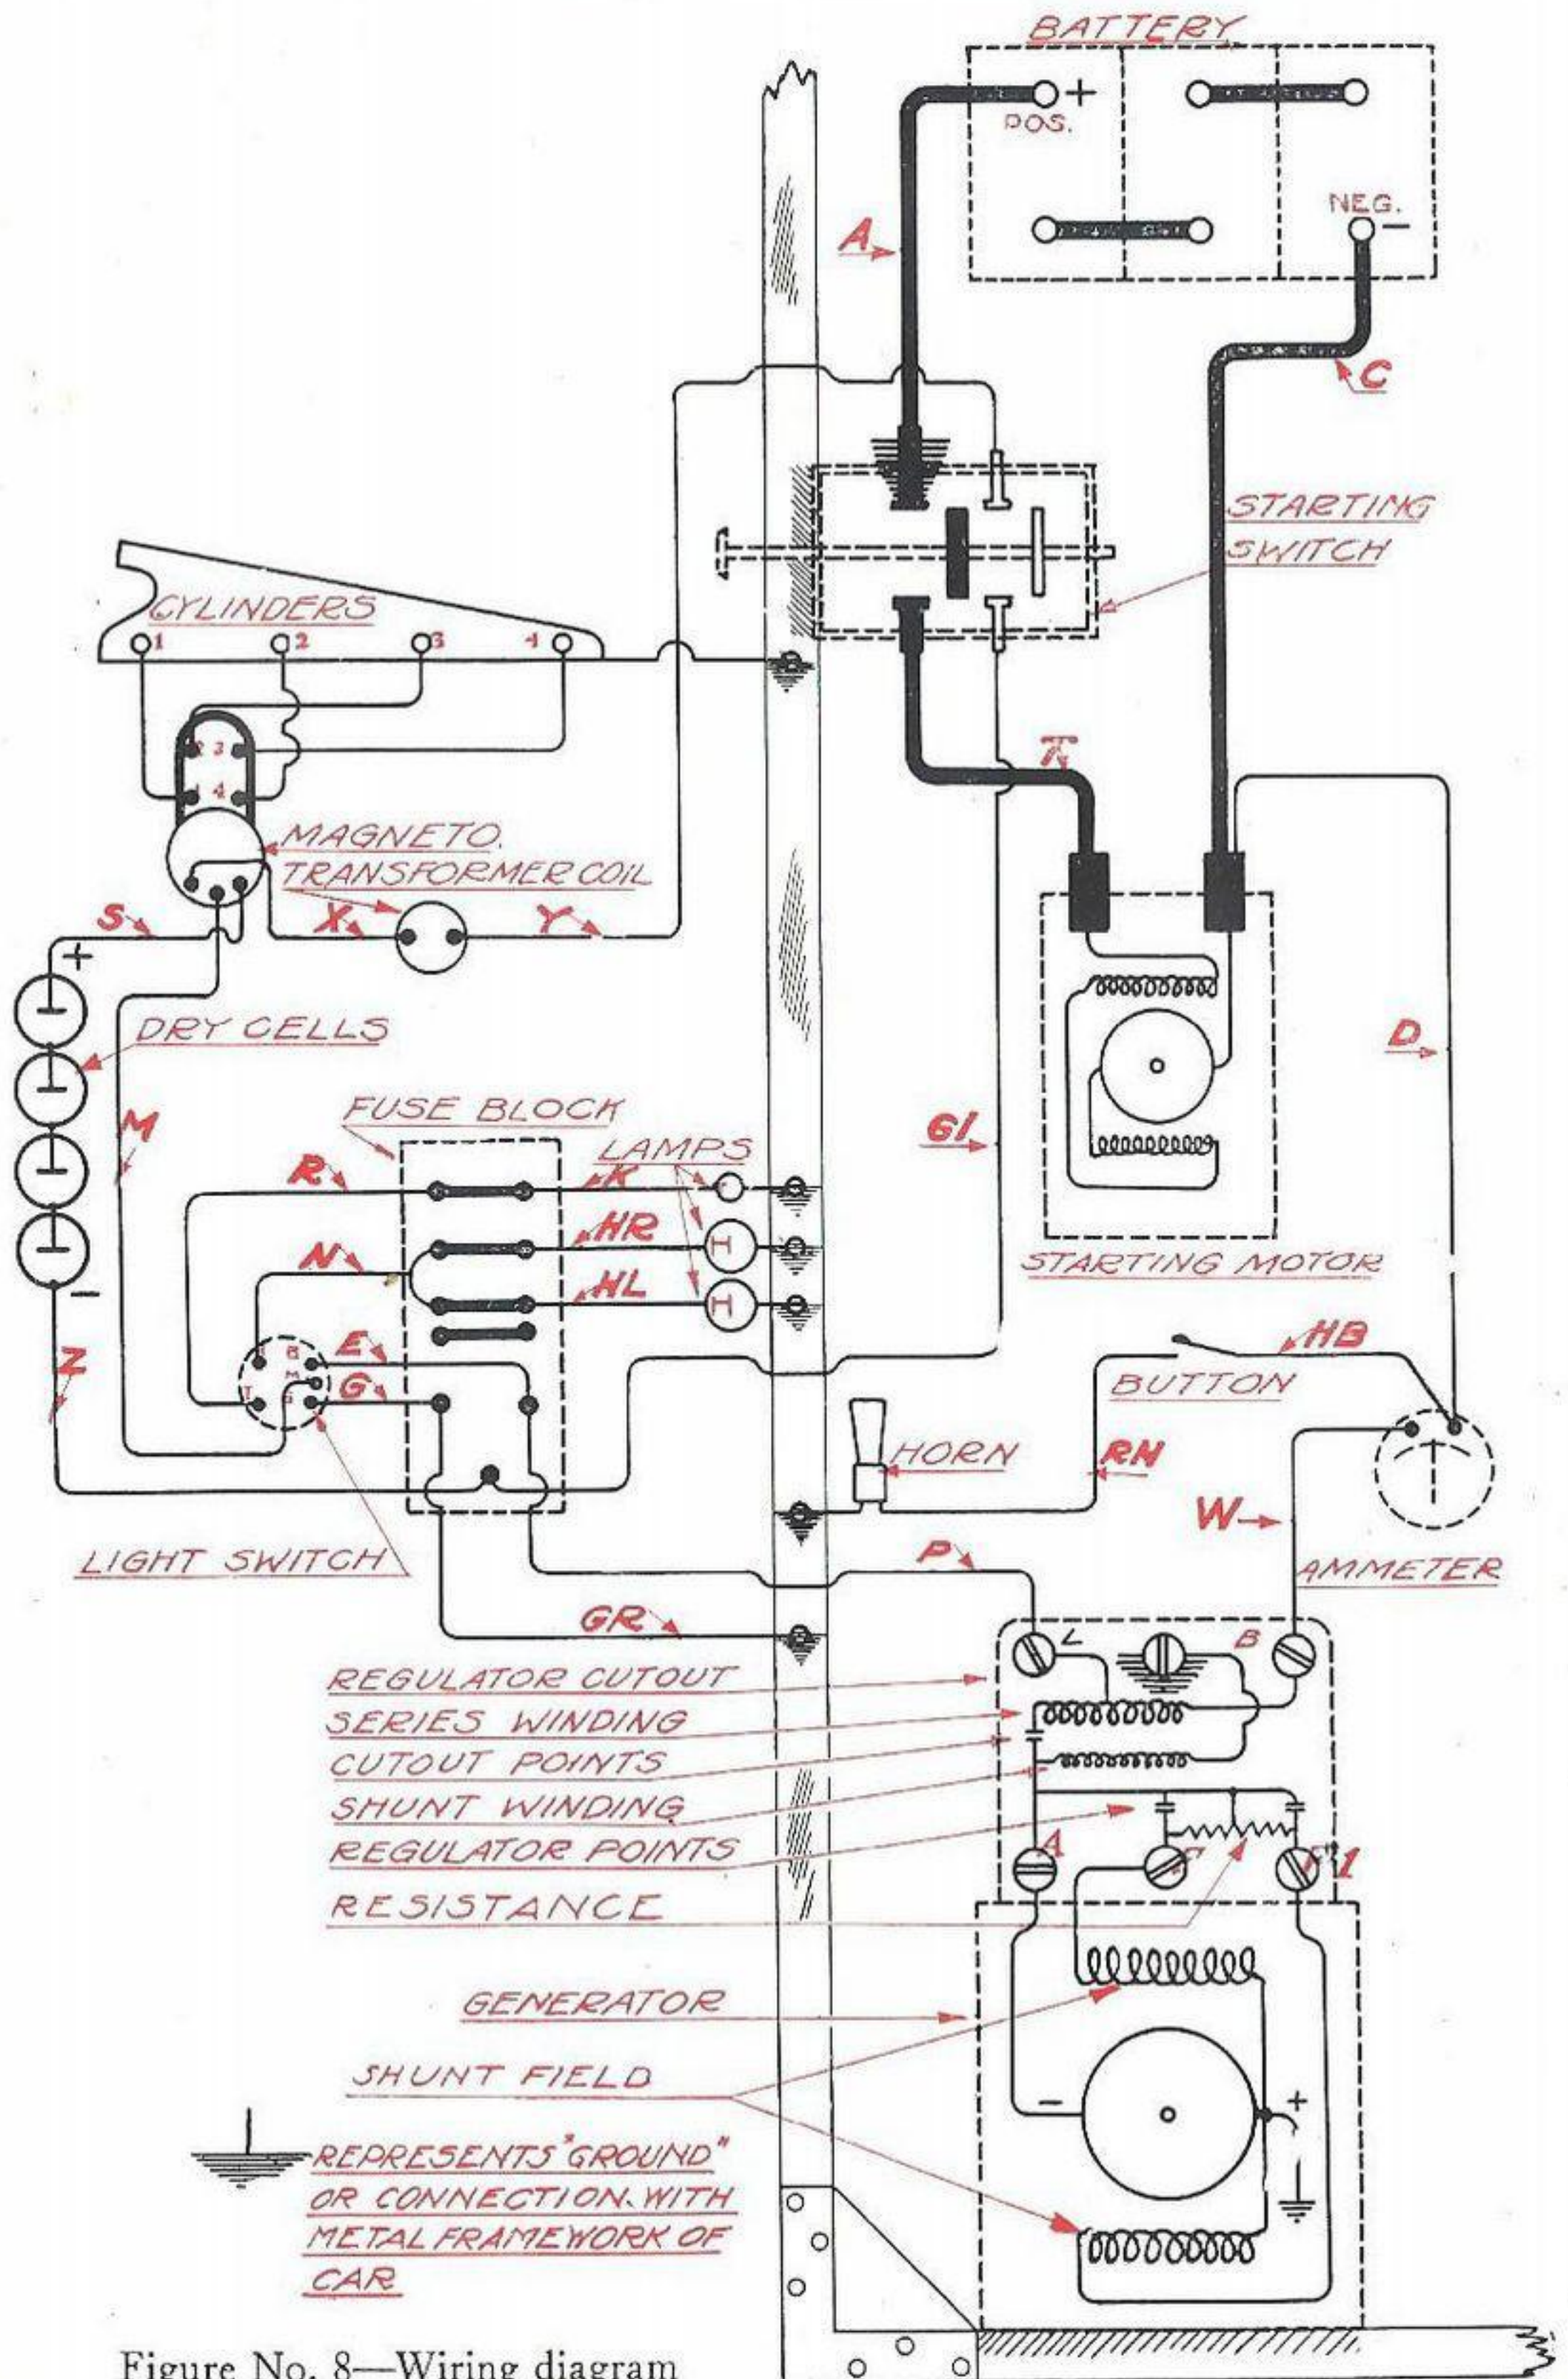

Figure No. 8—Wiring diagram
- 32 Under front seat, mounted in an accessible position on the fuse block (Fig. No. 8) are the fuses. These are placed in the head and rear lamp circuits to protect the remaining part of the system should the wires leading to these lamps come in contact with metal frame work of car and cause a short circuit.
- 73 If dynamo is at fault and its removal becomes necessary, disconnect wires from dynamo terminals "L" and "N" and connect wire ends firmly together. This will complete the battery circuit to lamps when dynamo has been removed. (See wiring diagram, Fig. No. 8.) The joint should be wrapped with tape to avoid contact with other metal.